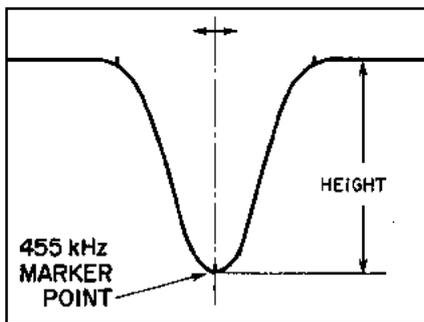

Fig. 15
NOTE: A noise element should not enter the single peaked curve shown in Fig. 15.
- 5) Adjust the cores of FM-AM IF Amp. P.C. Board IFT T7(BLK) (refer to Fig. 5) so that the 455 kHz marker point of the single peaked curve displays maximum amplitude as shown in Fig. 15.
- 6) Adjust the cores of FM-AM IF Amp. P.C. Board IFT T6(WHT) and T5(YLW) (refer to Fig. 5) so that the left and right rise up characteristics of the single peaked curve shown in Fig. 15 are identical from the center (indicated by the dotted line in the figure).